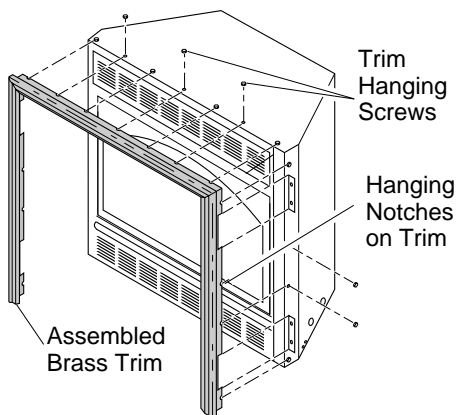

Figure 7 - Attaching Brass Trim to Fireplace
- Tighten trim hanging screws (#10 x 6.25 shoulder) into holes in cabinets. Place the assembled trim onto fireplace cabinet. Align hanging notches on trim with hanging screws on side of fireplace (see Figure 7). Push trim firmly into place, sliding hanging notches over hanging screws.
10. Install brass trim after final finishing and/or painting of wall (see Figure 7, page 8).